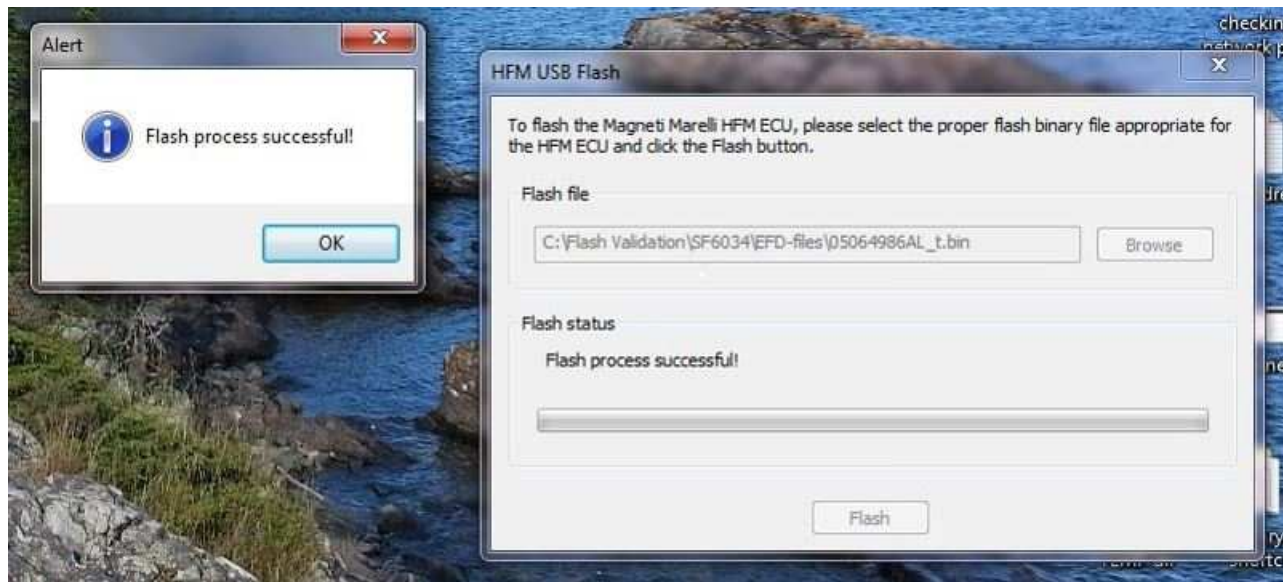

Fig. 16
12. When the download and reprogramming is complete, a message will indicate "Flash process successful!" (Fig. 16) .